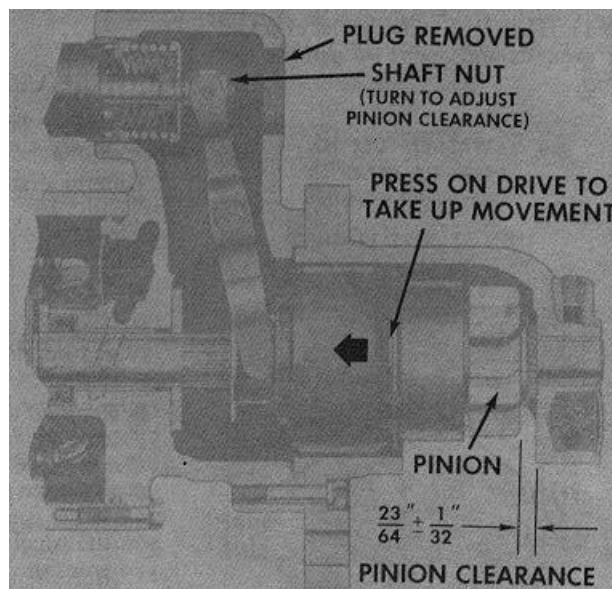

Figure 26-Checking pinion clearance on heavy duty motor.
5. Adjust clearance by removing plug and turning shaft nut (Figs. 26 and 27). **Although typical specifications are shown, always refer to 1M-188, 1M-187, or 1M-186 for specifications applying to specific models.**